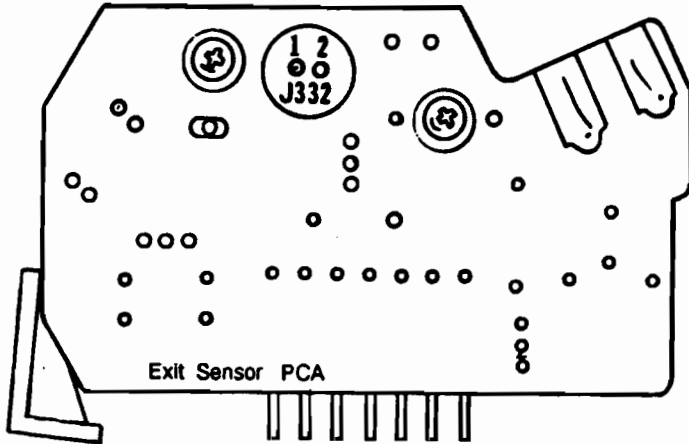

Figure 7-28. Thermistor Resistance at J332
3. Measure the Thermistor's resistance at J332, pins 1 and 2 (see Figure 7-28). At ambient room temperature (72° F, 23° C), the resistance should be approximately 1,130 kohms. If the printer has